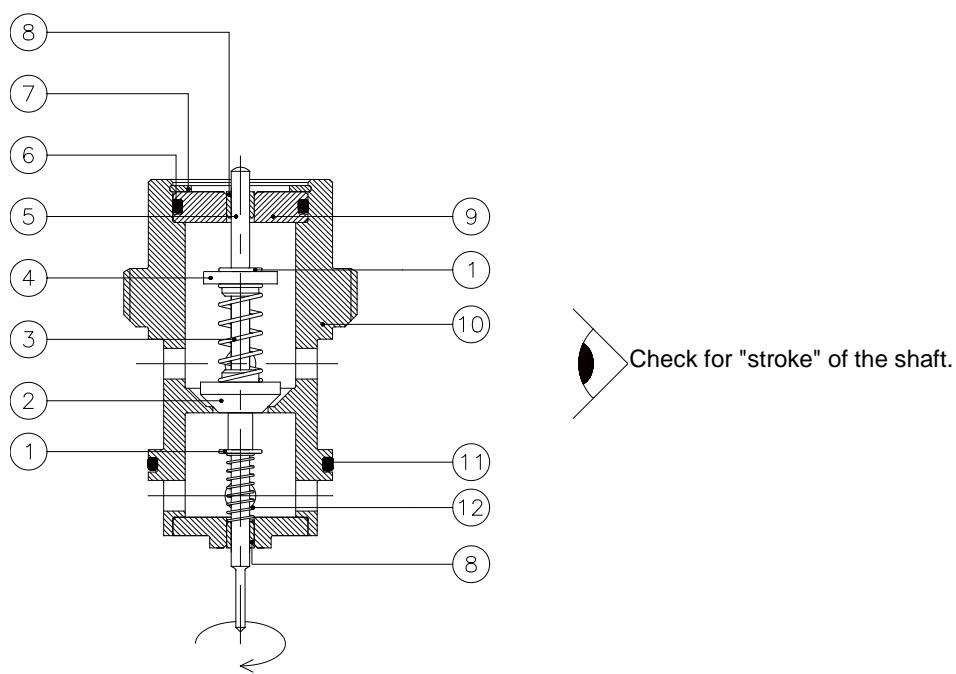

Figure 15
Place the valve (2), from figure 15, and the spring (3) on the shaft (5), connect the whole by placing the spring washer (4) and the shaft lock washer (1). Place the shaft locking ring (1) and the spring (12) on the shaft (5). Place the whole in the house (10). Insert cover (9) and fuse ring (7).
After assembly, check that the shaft (5) slides into the bearings (8) without friction and that the shaft rotates in the housing without impact. This check can be done by turning the shaft and looking through the holes in the housing (see figure 15).
Remove the fuse ring (7) and remove the cover (9). The composition of the shaft can now be removed from the housing and disassembled (see figure 15).